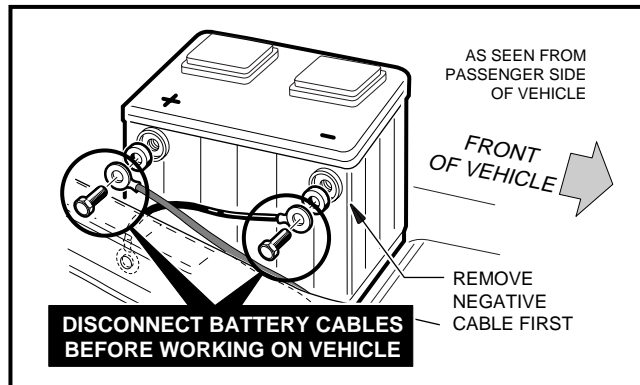
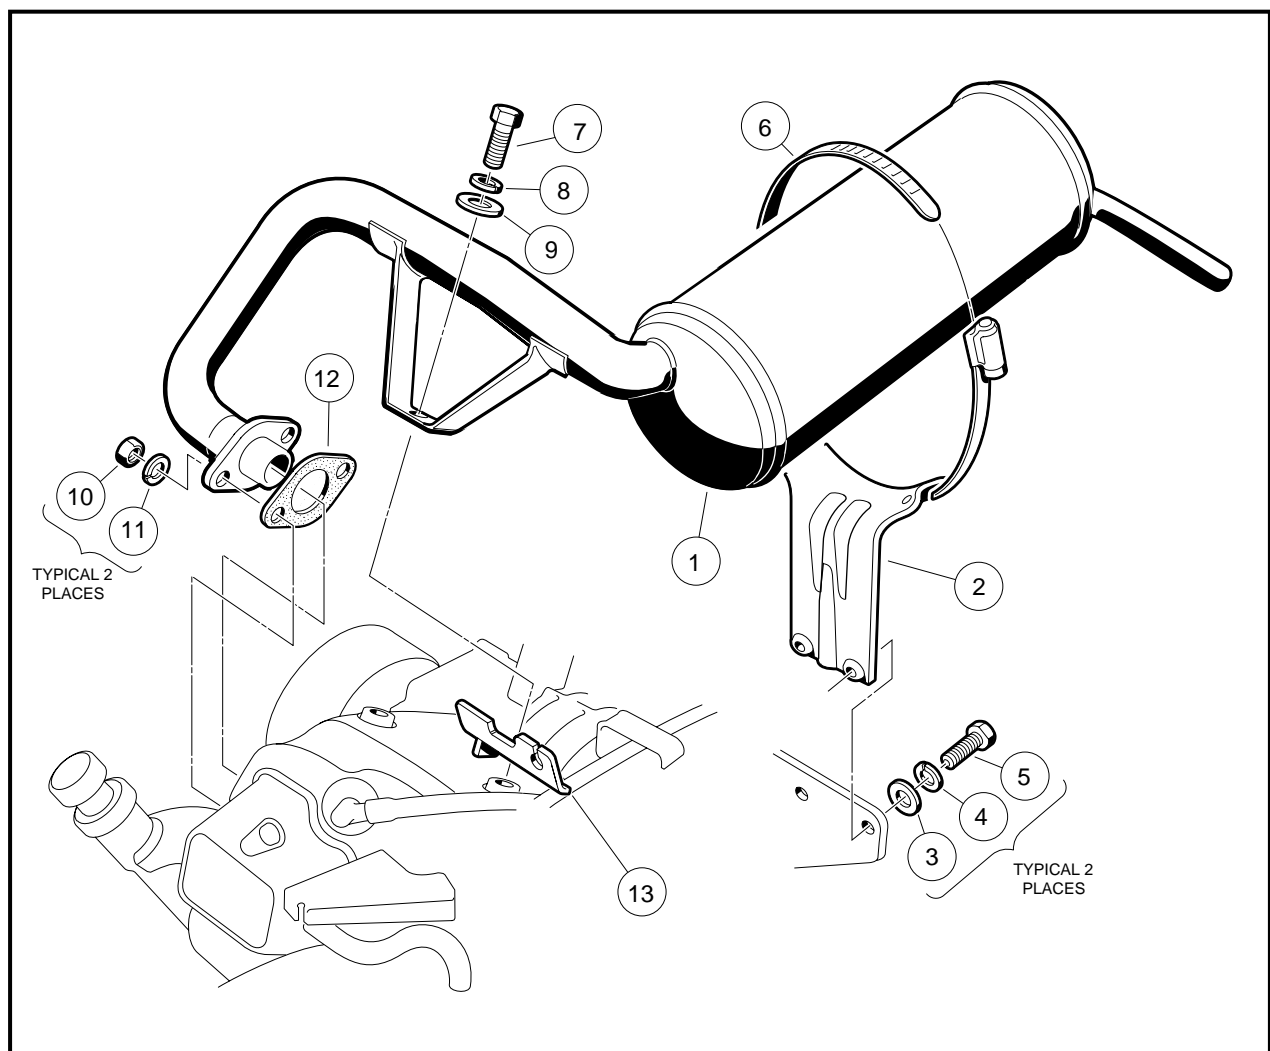

Figure 15-1 FE350 Battery
Figure 15-2 Exhaust System
- Disconnect battery cables, negative cable (–) first (Figure 15-1, Page 15-2).
1. Disconnect the battery cables, negative (–) cable first (**Figure 15-1, Page 15-2**).
3. Remove the hex nuts (10) and lock washers (11) (**Figure 15-2, Page 15-3**).
4. Remove the hex head cap screw (7), lock washer (8), and flat washer (9).
5. Remove the retaining bolts (5), lock washers (4), and flat washers (3) from the muffler bracket (2).
6. Remove the muffler (1) and bracket assembly (2) from the vehicle.
7. Remove the muffler clamp (6) from the muffler bracket (2).
NOTE: Any time the muffler is removed from the vehicle, install a new muffler clamp (6) (CCI 1017689) and muffler gasket (**Figure 15-2, Page 15-3**).
1. Use the muffler clamp (6) to attach the muffler bracket (2) to the muffler as shown (**Figure 15-2, Page 15-3**). Leave the muffler clamp loose enough to allow the muffler to move as the mounting hardware is tightened. If installing a new muffler, use the old muffler as a positioning guide for the clamp and bracket.
2. Place a new gasket (12) on the exhaust manifold mounting flange as shown.
3. Position the muffler and bracket assembly, and the governor cable bracket (13) and install the bolts (5), lock washers (4), and flat washers (3). Thread the bolts in only enough to support the muffler and bracket assembly. Do not tighten them.
4. Install the hex nuts (10) and lock washers (11). Tighten the nuts fingertight.
5. Install the hex head cap screw (7), lock washer (8), and flat washer (9). Tighten the cap screw fingertight.
6. Tighten the hex nuts (10) to 11 ft-lb (14.9 N·m).
7. Tighten the hex cap screw (7) to 14 ft-lb (18.9 N·m).
8. Tighten the muffler clamp (6) to 40 in-lb (4.5 N·m).
9. Tighten the muffler bracket mounting bolts (5) to 75 in-lb (8.5 N·m).
11. Connect battery cables, positive (+) first and tighten terminals to 20 ft-lb (27.1 N·m) (**Figure 15-1, Page 15-2**). Coat terminals with Battery Protector Spray (CCI 1014305).